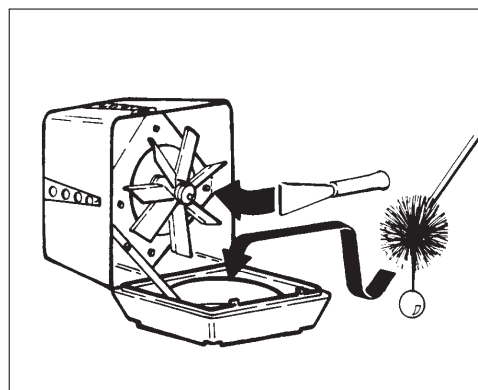

Fig 13
- If necessary, use a scraper and a brush to clean the impeller and the inside of the fan base (see Fig. 13).